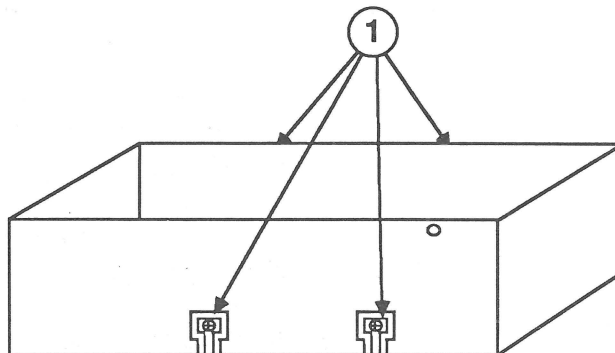

FIGURE 7
3. Remove the four Phillips screws (Figure 7, #1).
2. Replace the four Phillips screws (Figure 7, #1) that secure the mechanical assembly.